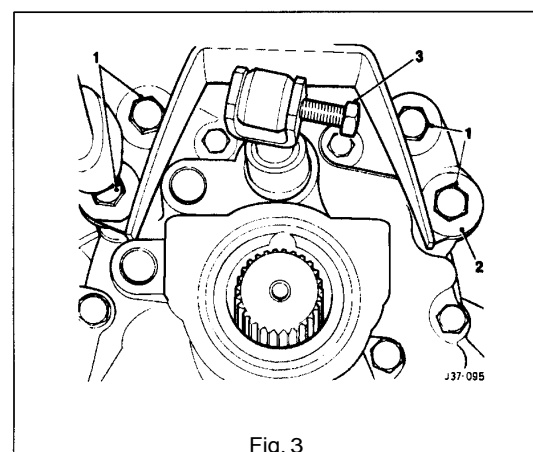

Fig. 3
- From below: slacken but do not remove the selector shaft bolt (3 Fig. 3).
- Finally remove the selector shaft bolt (3 Fig. 3).